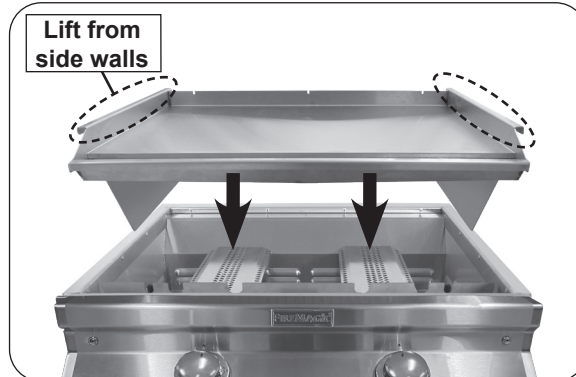

Fig. 32-2 Replace griddle top
**Note:** Lift the griddle top from the left and right raised walls (see Fig. 32-2).